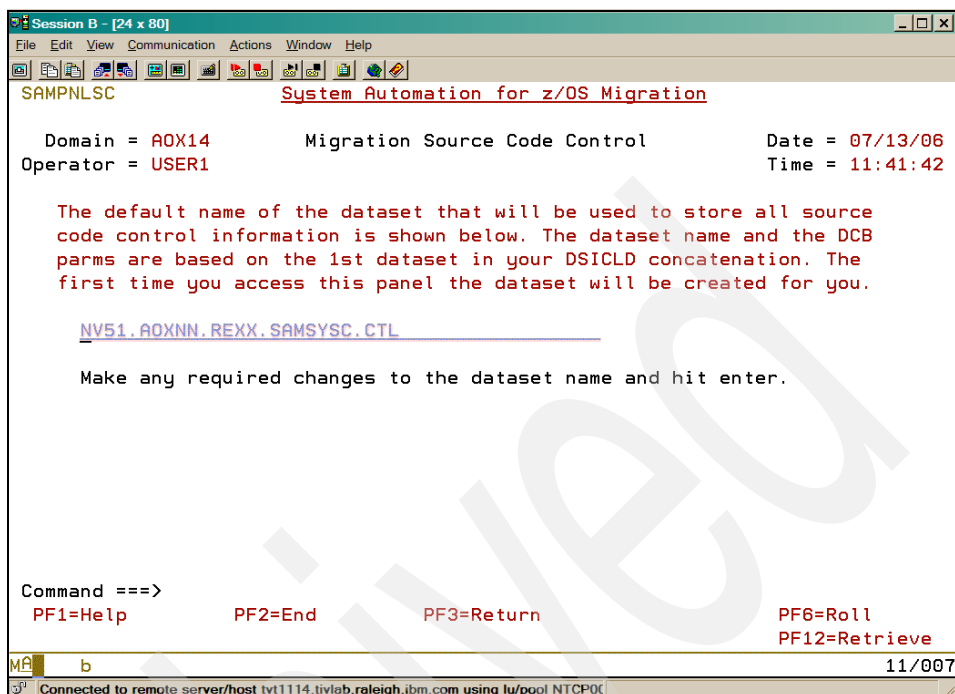

Figure 6-5 Migration Source Code Control - control dataset screen
1. To specify the control dataset, just key in 1 on the sub menu screen (or use the SAMSCCC command) to specify the control dataset name. You get the screen in Figure 6-5 on page 141 with a proposed dataset name already filled in, that you can change however you wish.